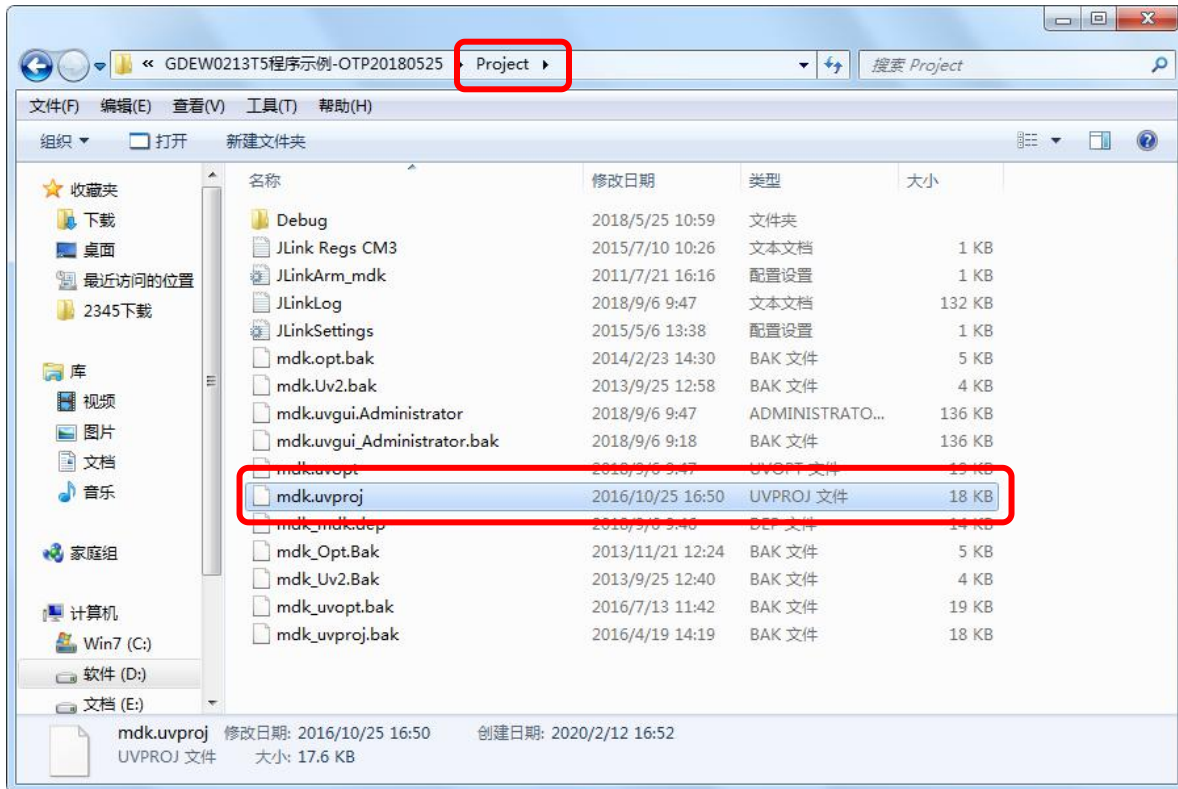

Figure 9 : Open the mdk.uvproj
- 2) Open the "mdk.uvproj" in the program folder "Project" shown in Figure 9 with Keil4.